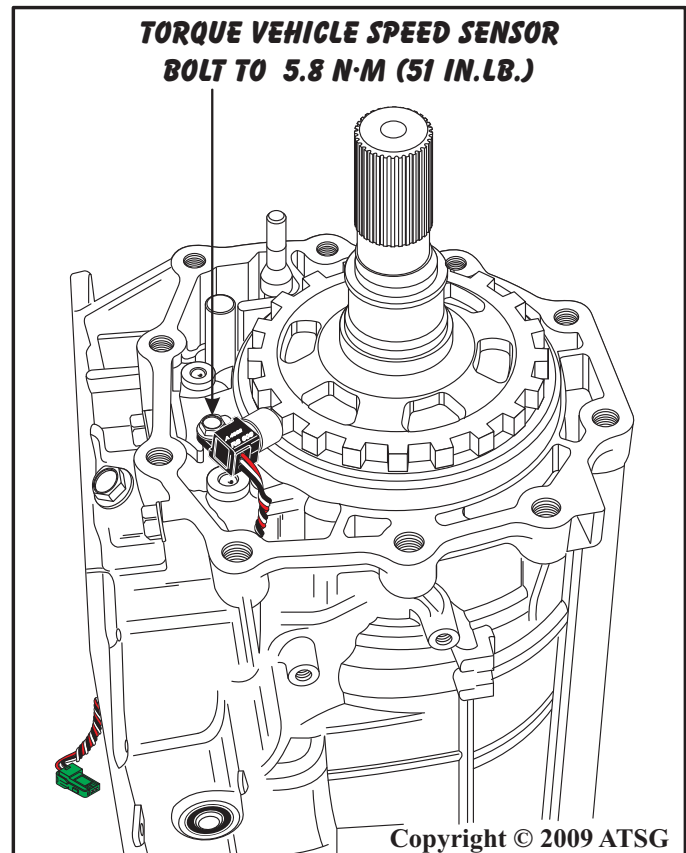

Figure 212
45. Torque the output/revolution speed sensor bolt to 5.8 N·m (51 in.lb.), as shown in Figure 212.
- (A) Run 12 volts from a battery, to the Red Wire (Pin 3) of the F506 Green Connector.
- (B) Run a jumper lead from the Black Wire (Pin 1) of the F506 Green Connector to battery ground.
- (C) Using a DVOM or Graphing Meter, place the Red lead of the meter to the White Wire (Pin 2) of the F506 Green Connector, place the Black lead of the meter to the Black Wire (Pin 1) of the F506 Green Connector.
- (D) Rotate output shaft slowly and you should see the meter toggle from voltage to infinite as the lugs on the park gear pass in front of the Output/Revolution Sensor Pick-up.